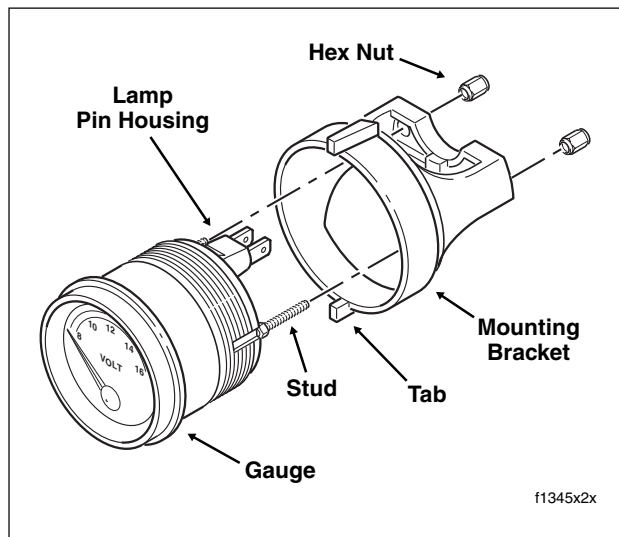

Figure 8-111. Voltmeter Gauge Assembly
To replace lamp, pull pin housing from gauge and then pull lamp from slot of pin housing. Install **new** lamp in slot and insert pin housing back into gauge. See Figure 8-111.
2. Slide mounting bracket over studs. Verify that tabs on top and bottom of bracket engage slots in inner fairing. See Figure 8-111.